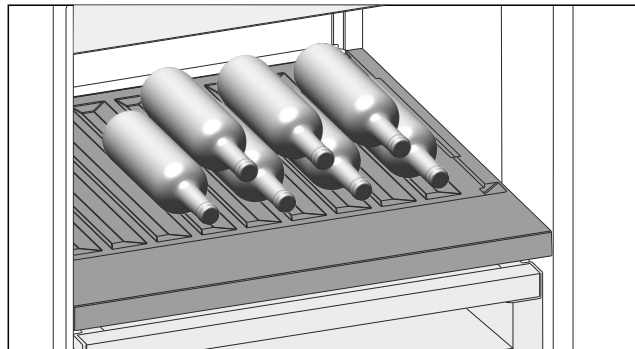

Fig. 178 Example illustration
- ▶ Place bottles in the back row with their bases against the back wall. (see Fig. 178)